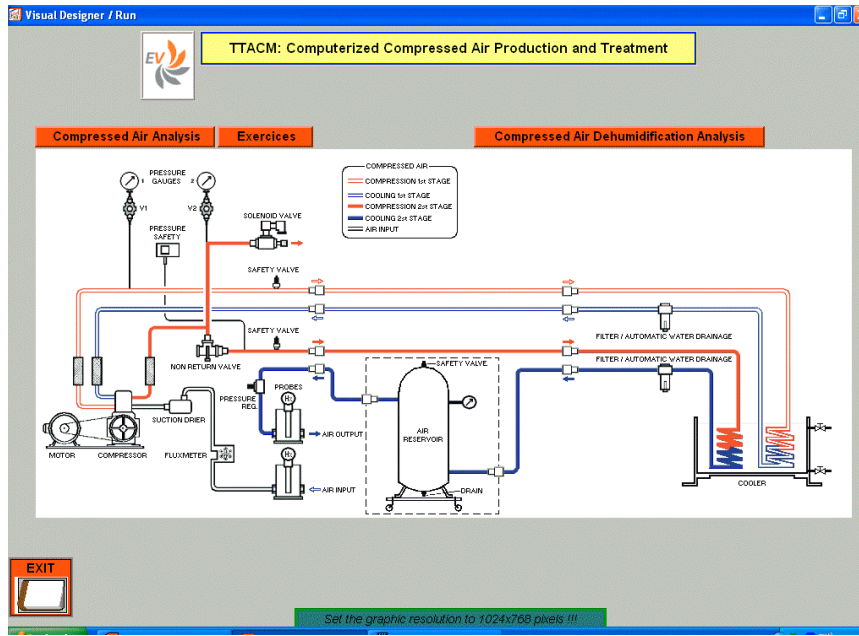
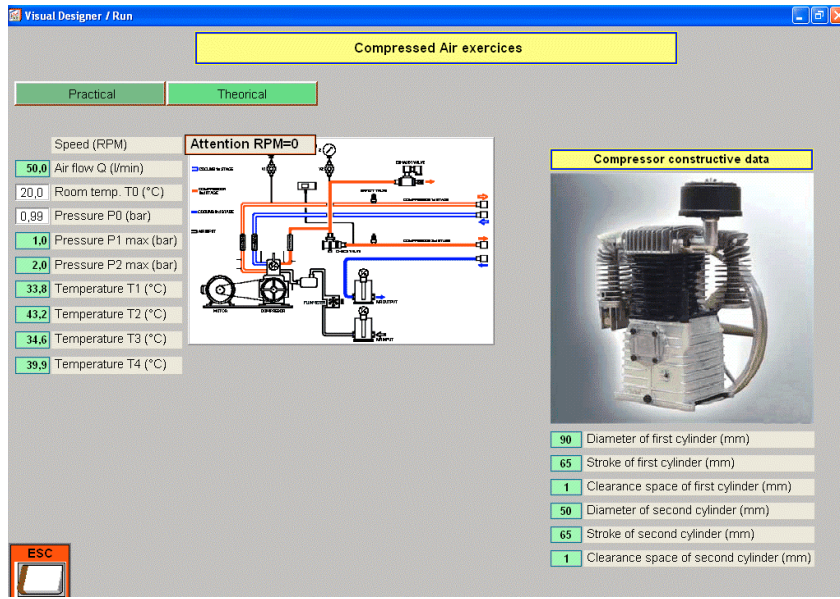

Figure 4: Supervision window.
Figure 7: Exercises window.
1. Running the program, the trainer's supervision window appears on the display. As shown in figure 4
From the main screen (figure 4), pressing the button “**Exercises**” you enter the exercises session (figure 7).